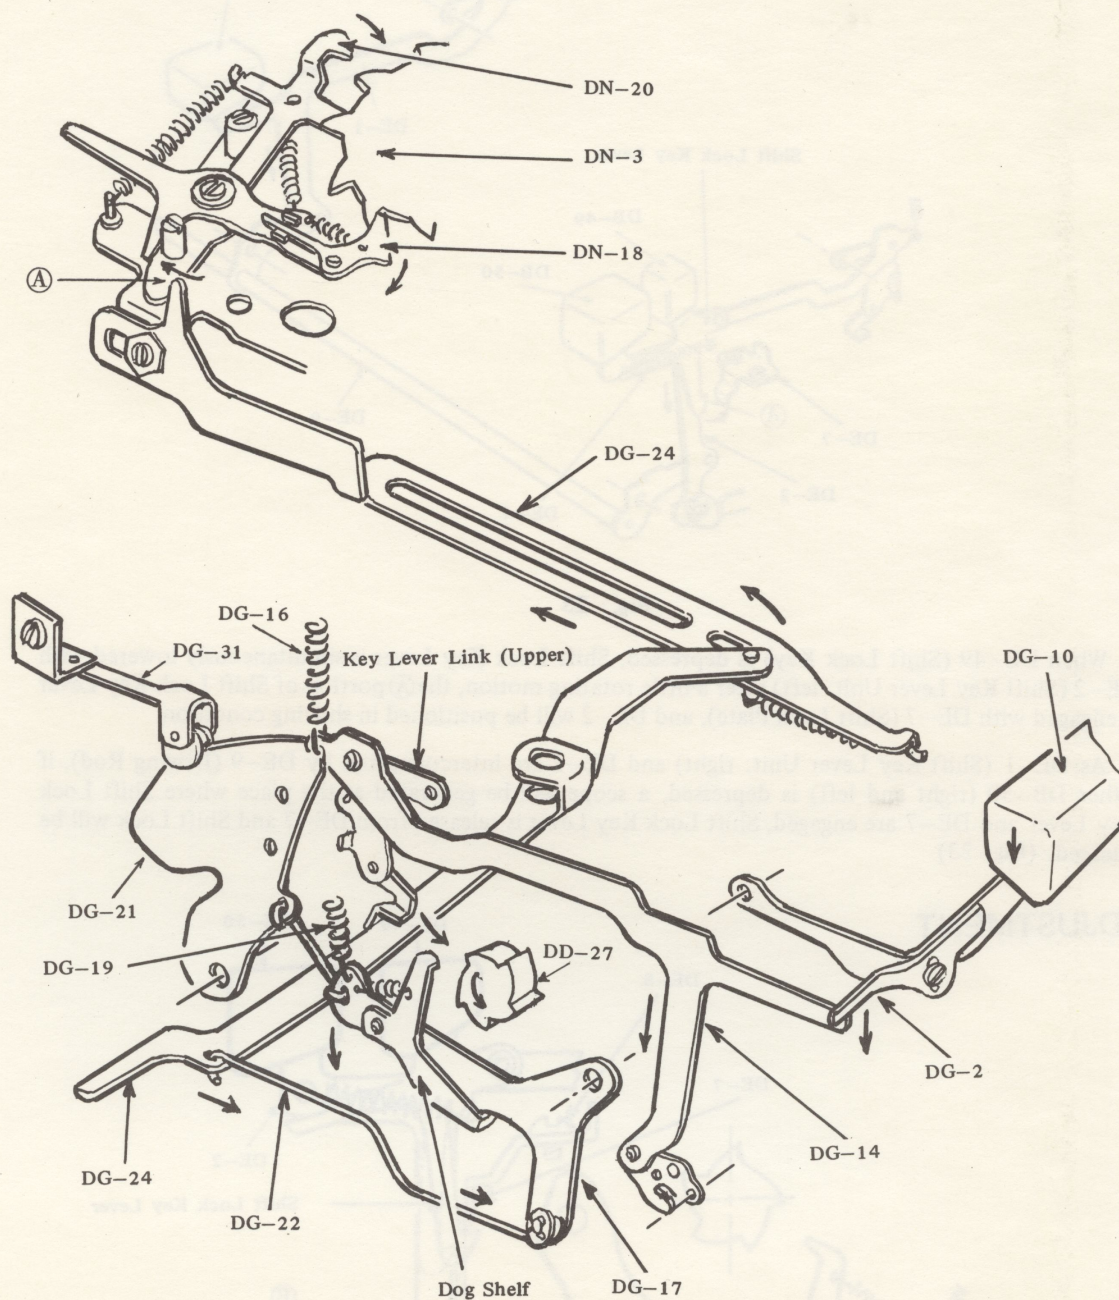

Fig. 25
By the revolution of DD-27, DG-17 (Dog Shelf Holder Unit) will lower and depress the ④ portion of DN-20 (Half Space Ratchet) by the media of DG-22 (Space Wire) and DG-24 (Space Bar Connecting Link Unit), resulting DN-18 (Space Ratchet) is come off from DN-3 (Space Ratchet Wheel) and Carriage is escaped half space. (Fig. 25)